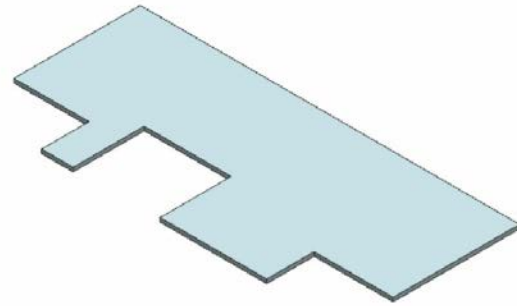

Figure 14-104 The tab feature created
4. Exit the sketching environment and specify the thickness of the sheet metal part in the upward direction. Exit the **Tab** tool to create the base of the sheet metal part, as shown in Figure 14-104.